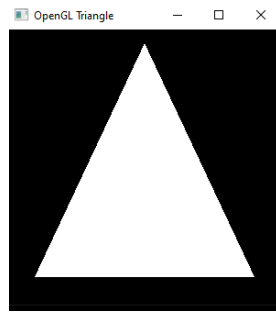

Figure 3
- e) The image in figure 3 was created using vertices $(-0.8, -0.8)$, $(0.8, -0.8)$ and $(0, 0.9)$.